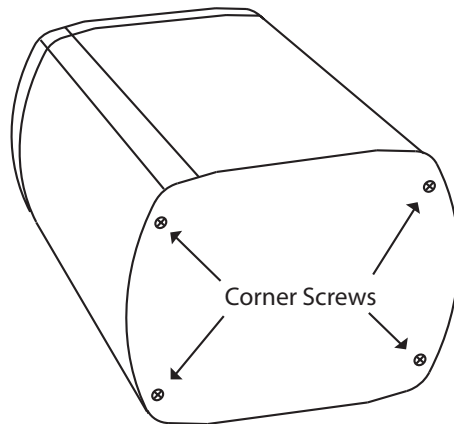

Figure 2-2 Back Cover Plate Screws
2. Remove the four corner screws from the back of the camera with a Philips screwdriver or T-9 torx driver (figure 2-2).